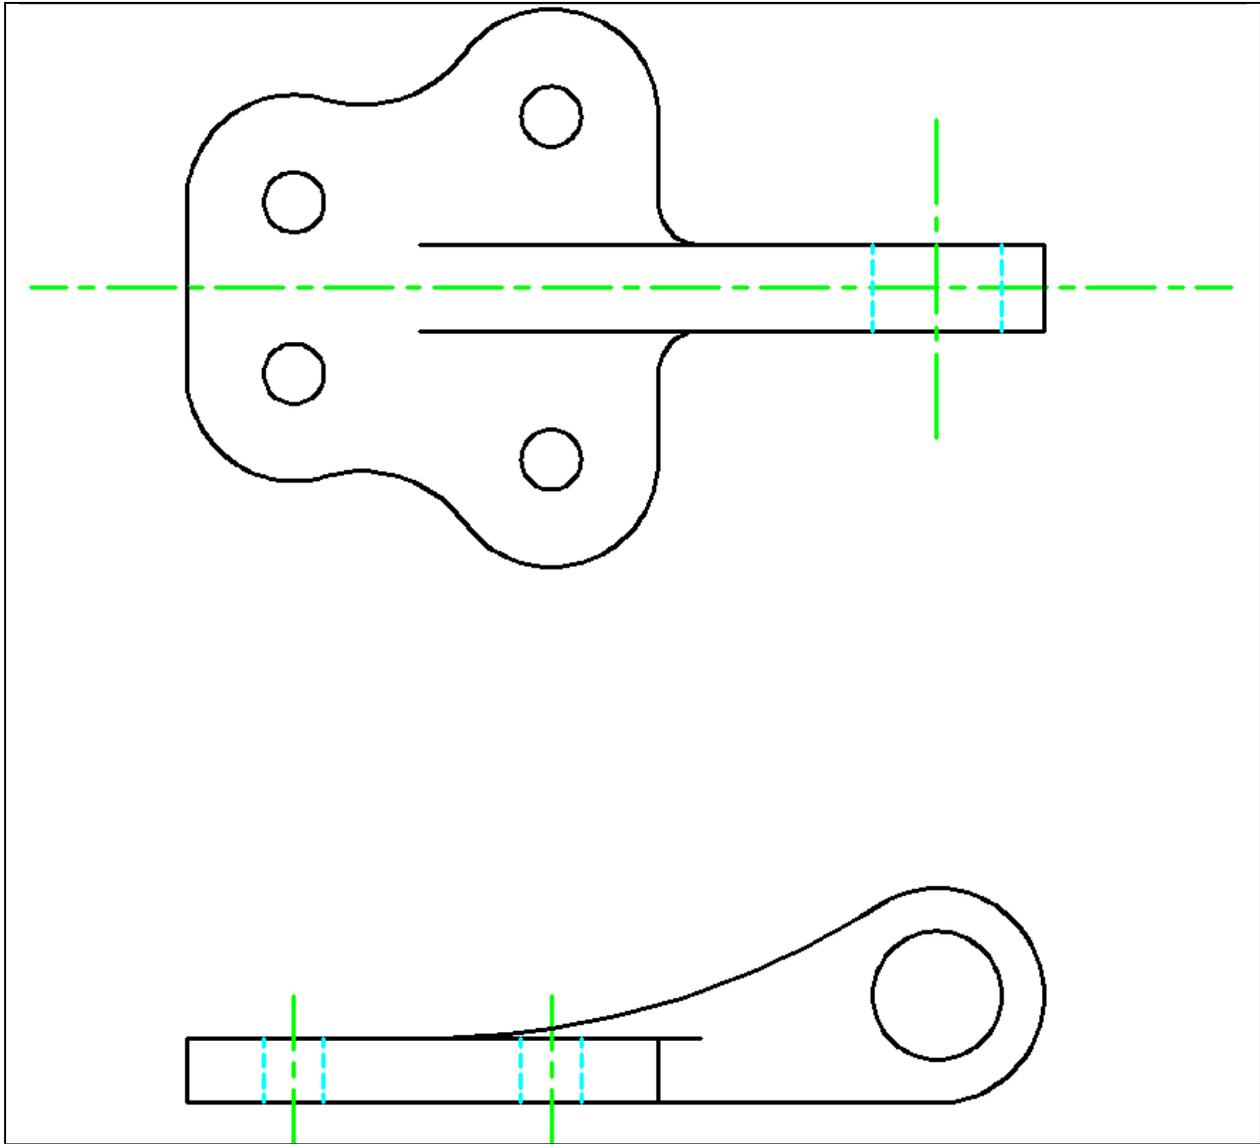

Figure 10.35 – The Bracket problem
Figure 10.35 shows a properly drawn Bracket problem for your reference.
*** World Class CAD Challenge 02-21* - Create a New file using the Metric template, and draw the 39 entities shown in Figure 10.35 in 3 minutes 15 seconds. Continue this drill four times, each time completing the drawing in less than 3 minutes 15 seconds to maintain your World Class ranking.**